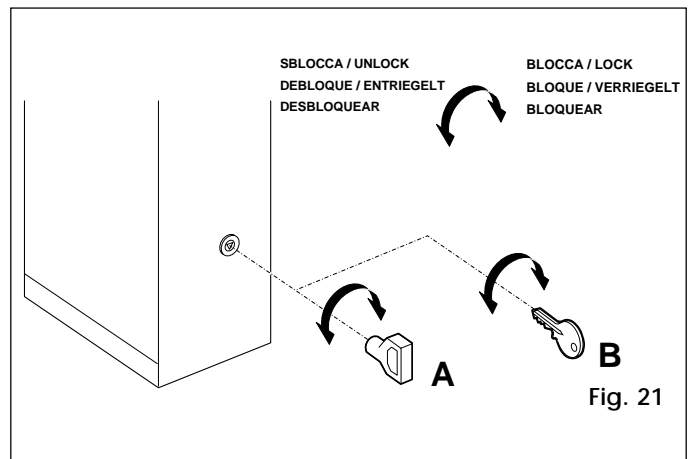

Fig. 21
The key provided may be triangular (A, fig. 21 - standard), or personalised (B, fig. 21 - optional). Insert it in the lock and turn it 1 revolution anticlockwise (Fig. 21).
- turn the key clockwise until it stops, then remove it (A, Fig. 21).
- turn the key anticlockwise very slowly to the point where it can be removed (B, Fig. 21).